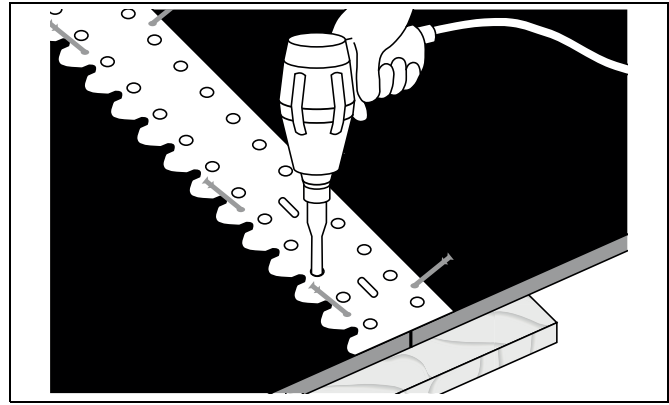

Figure 4F
3. Punch or bore bolt holes using an impact tool with Flexco Power Punch or Flexco Power Boring Bit speeds hole boring operation. Remove templet. Leave plank under belt ends for a work surface. All work can be done from the top of the belt. *(See Figure 4F on Page 29.)*